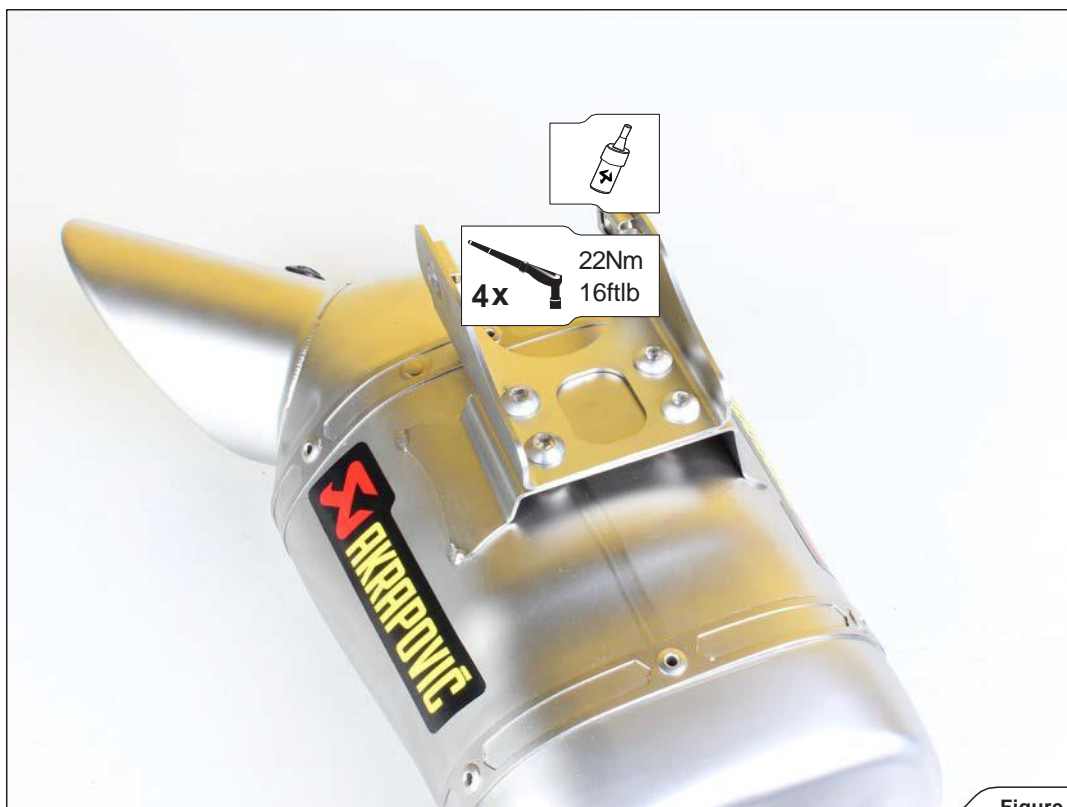

Figure 9
2. Assemble the muffler's bracket onto the muffler, using bolts from Akrapovič installation kit (**Figure 9**).